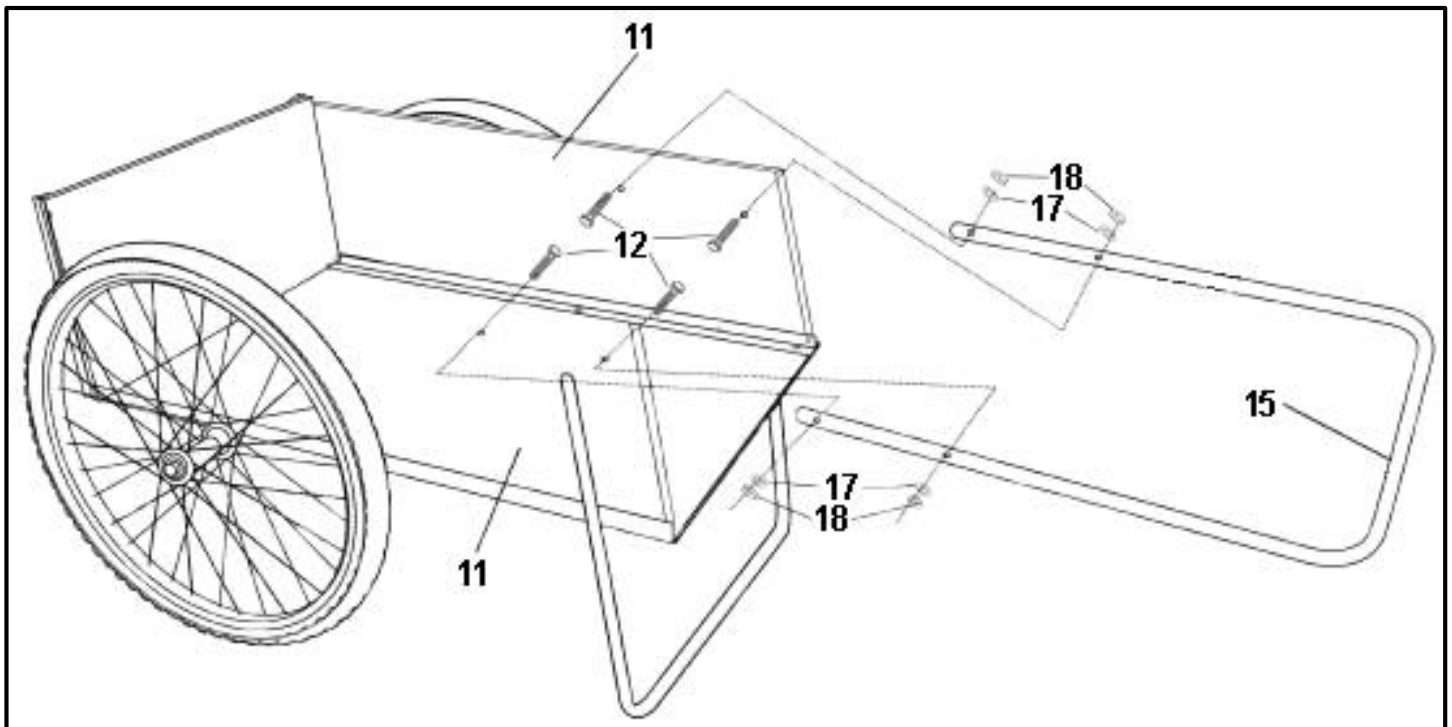

Figure 4
**FINALLY** – Attach Handle (See Figure 4 & Figure 5)
1. Assemble Handle (15) on Side Panel (11), using with Bolt (12), Washer (17) and Lock Nut (18) to tighten.